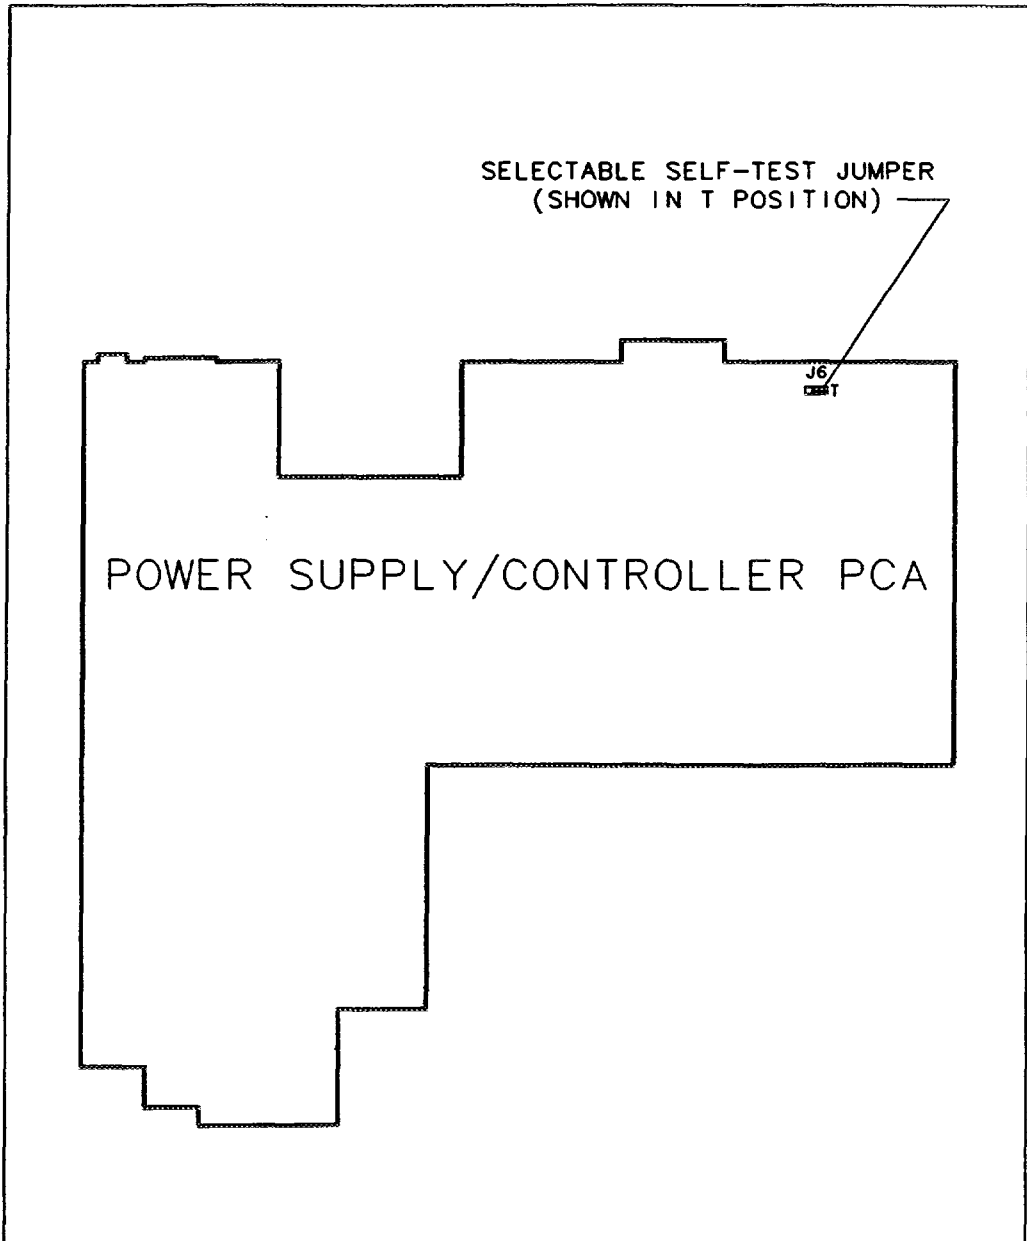

Figure 4-3. Selectable Self-test Jumper
- d. Start the selectable self-test by moving the selectable self-test jumper on connector J6 of the power supply/controller PCA one pin over to the T position (see figure 4-3).